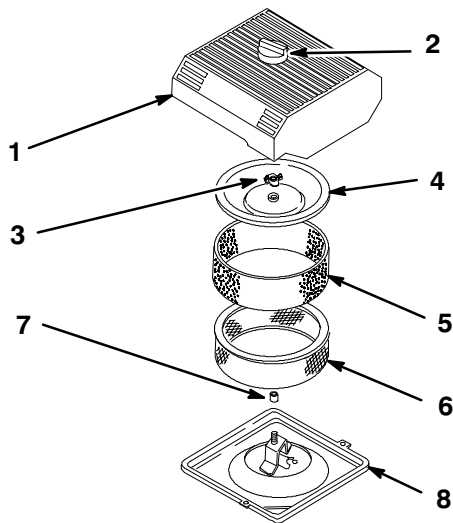

Figure 23
3. Clean around the air cleaner to prevent dirt from getting into the engine and causing damage (Fig. 23).
4. Loosen the knob on the air cleaner cover and remove the cover (Fig. 23).
5. Carefully slide the foam element off the paper element (Fig. 23).
6. Unscrew the cover nut and remove the cover and paper element (Fig. 23).
1. Carefully slide the foam element onto the paper air cleaner element (Fig. 23).
3. Install the cover nut finger-tight against the cover (Fig. 23).
4. Install the air cleaner cover and knob (Fig. 23).